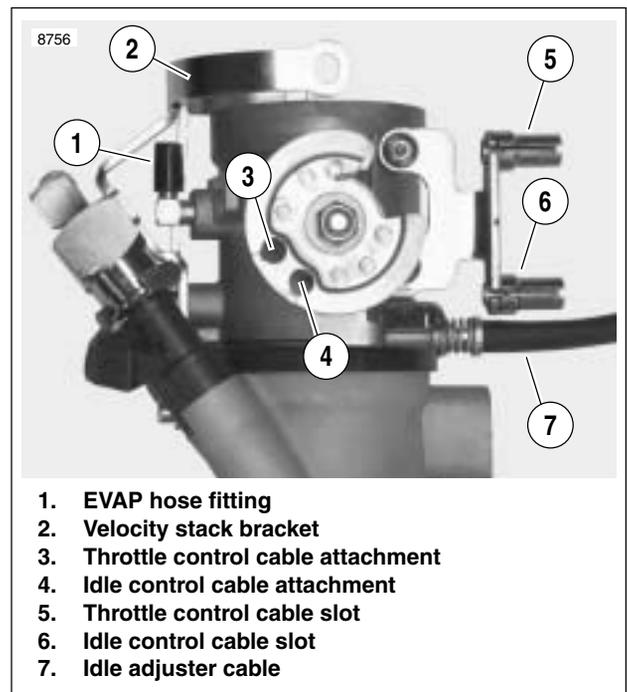

Figure 4-69. Throttle Cable Bracket (typical)
3. See Figure 4-69. On California models, pull EVAP hose from fitting (1).